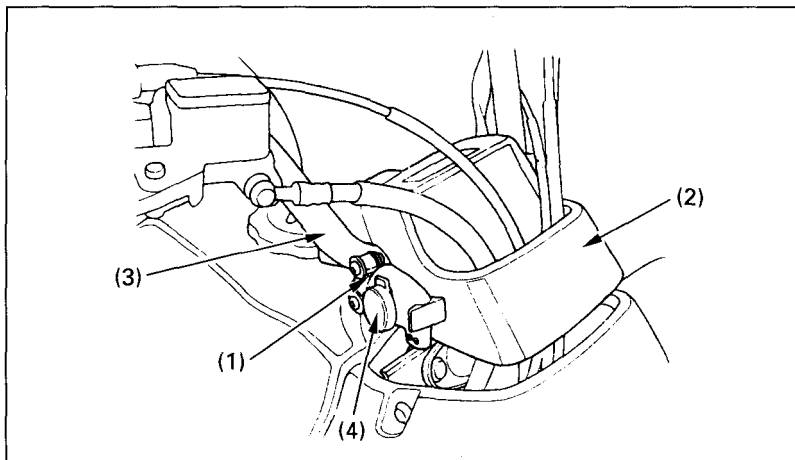

Fig. 2-24 (1) 12 V DC receptacle (3) Right handlebar
The DC receptacle (1) (Fig. 2-24) is attached to the right handlebar, near the handlebar cover (2). The receptacle provides 12 V DC power at a maximum of 180 watts (15 amps). If you exceed this limit, you may blow the fuse. (For information on fuses, and how to replace a fuse, see pages 117 – 118).
(2) Handlebar cover (4) Special DC plug
Electrical accessories may be connected to the receptacle by using the special DC plug (4) (Fig. 2-24) that comes attached to the receptacle. Be sure to use only accessories that are designed for 12 V DC power.
1. Remove the plug (4) from the receptacle (1) (Fig. 2-24).